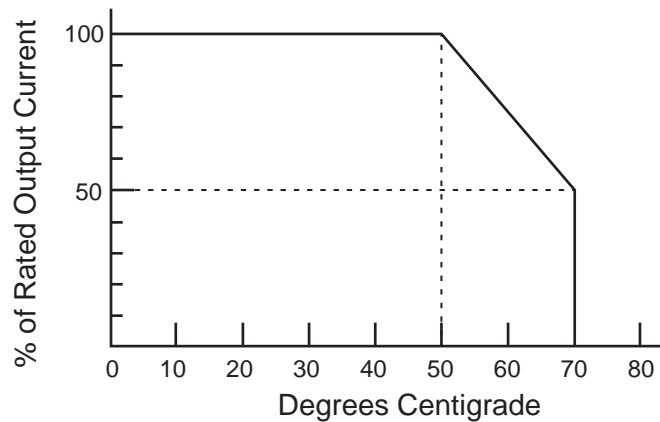

Figure 7. Rated Output Current vs. Ambient Temperature
13.4 Output Power. Maximum output power is 2250 watts for each module. The maximum output power of a module may be drawn at up to 50°C ambient temperature. Above 50°C the output current must be derated by 2.5%/°C. See Figure 7. The maximum operating temperature is 70°C, at which the output current must be derated by 50%.